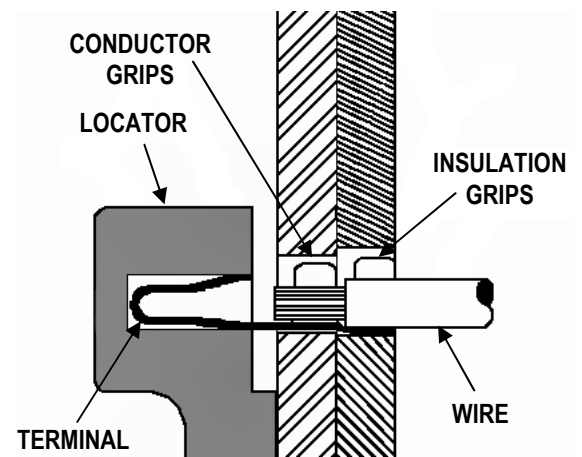

Figure 2
3. Place a pre-stripped wire into the terminal and align the wire with the conductor and insulation grips visually. See Figure 2 and 3.